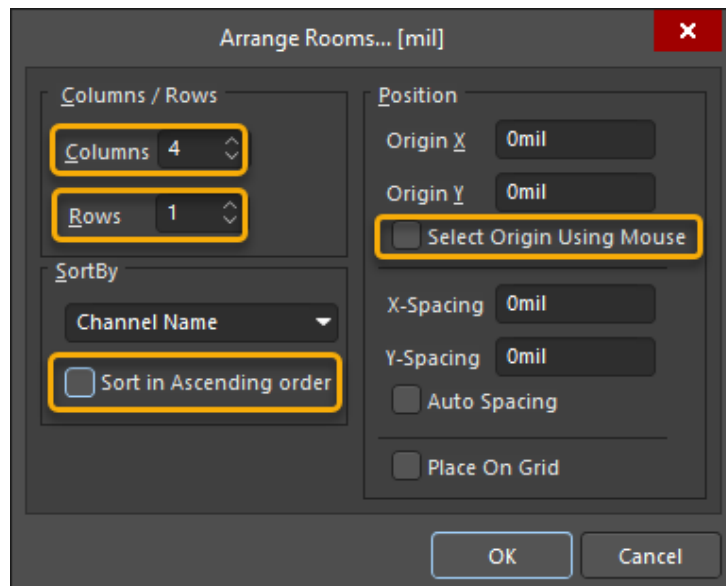

Figure 13. Automatic Room Arrangement
- In the *Arrange Rooms* dialog, set the *Columns* value to 4, and *Rows* to 1, as shown in Figure 13.